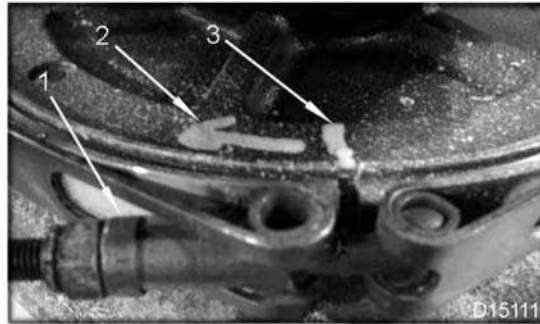

Figure 2 V-clamp location and direction
6. Using a paint pen, mark the location of the V-clamp and direction of the V-clamp locknut (Figure 2).